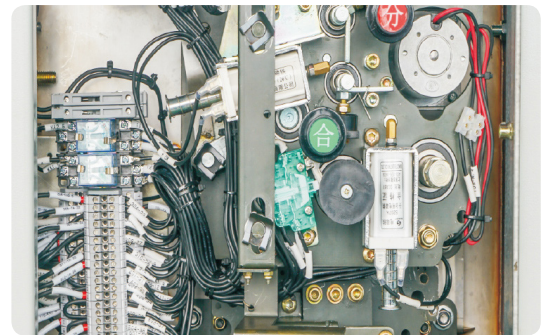

Figure 2-7 Electric operating mechanism
- There are many choices for the operating power supply of the electric operating mechanism (see Figure 2-7). The optional power supplies are: DC24V, DC48V, DC110V, and DC/AC220V.